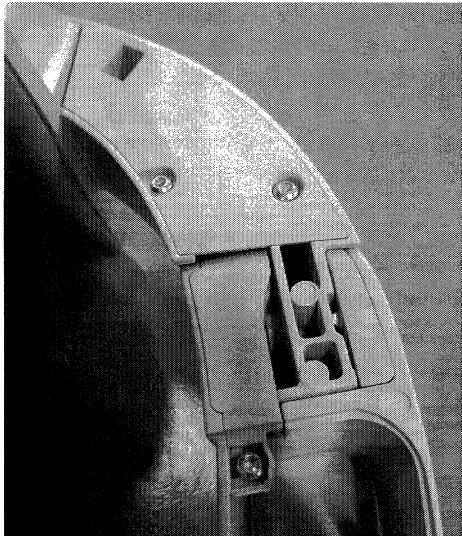

Fig. 11
11. Flip the Backbone Cover over and into place, making sure not to pinch any wires. Secure the covers on both sides using T25 Torx screws [Fig. 11].